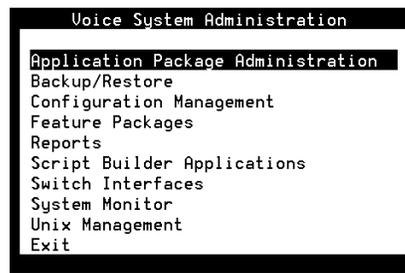

Figure 4-1. Voice System Administration menu
3. The system displays the Voice System Administration menu (Figure 4-1).
10. Press **(F6)** (Cancel) until you return to the Voice System Administration menu. (Figure 4-1).